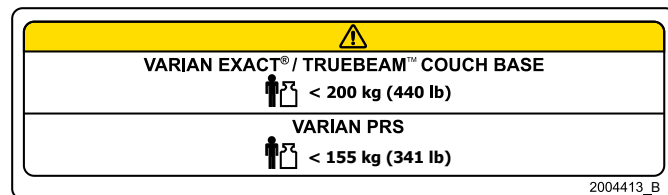

Fig. 43
12. Place 4" x 1.125" CAUTION label onto the back of the kVue under current 2" x 4" CAUTION label (Fig. 43).